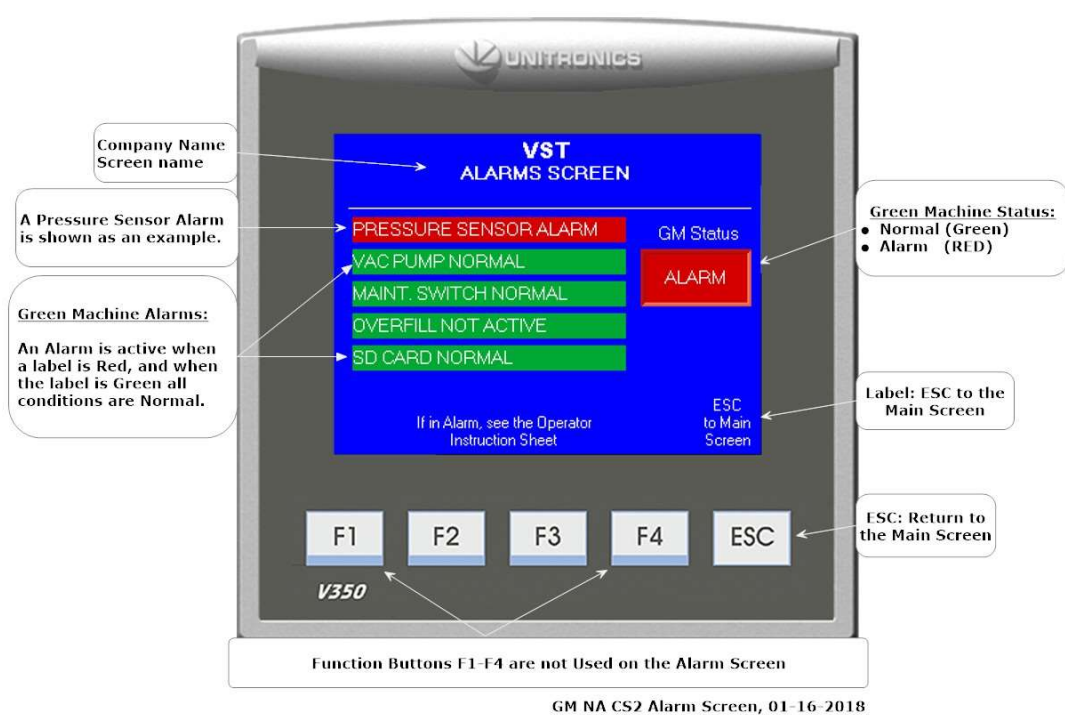

Figure 10-3: Faults & Alarm Screen
- See Figure 10-3 for the Alarm Screen.